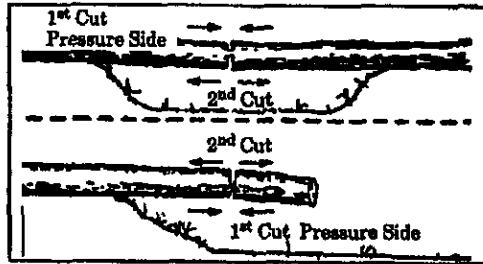

Figure 22
- f. Give special attention to logs under strain to prevent the saw from pinching. Make the first cut on the pressure side to relieve the stress on the log. Figure 22.